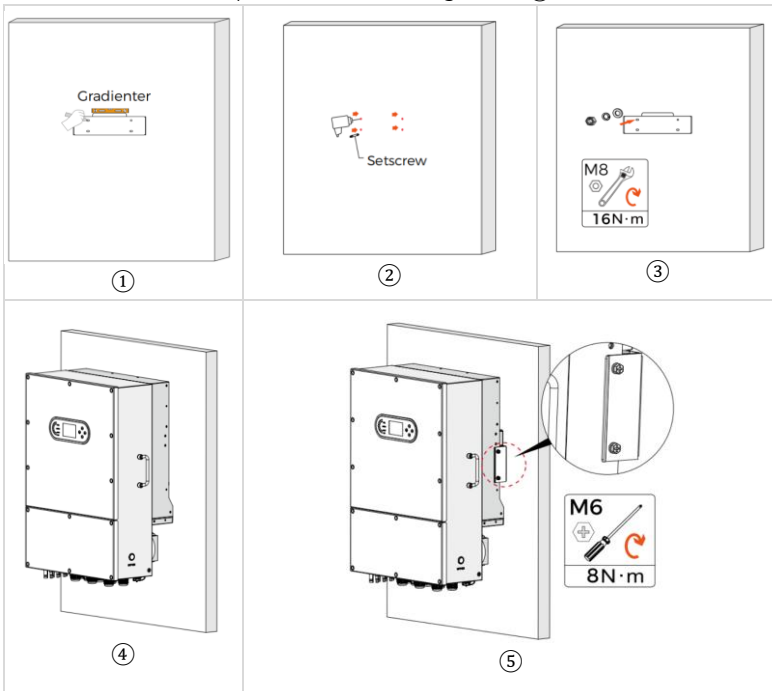

Figure 4-5 Installing the inverter
Step 1 Determine the positions for drilling holes, ensure the hole positions are level, then mark the hole positions using a marker pen, as shown in Figure 4-5①.
Step 2 Use the hammer drill to drill holes on the wall (diameter $\Phi 8$ mm). When drilling, keep the hammer drill perpendicular to the wall and drill slightly deeper than the length of the expansion pipe. After drilling, please check whether the hole position is suitable with the back plate. If the error is too large, please reposition the hole, as shown in Figure 4-5②.
Step 3 Slowly hammer the expansion screw into the drilled hole. Position the back plate well, place the shrapnel and flat pad, and fix the back plate with hexagon nut, as shown in Figure 4-5③.
Step 4 Hang the inverter on the back plate, as shown in Figure 4-5④.
Step 5 Lock the inverter and the back plate with M5 hex screw, you can secure the inverter to the rear panel, as shown in Figure 4-5⑤.